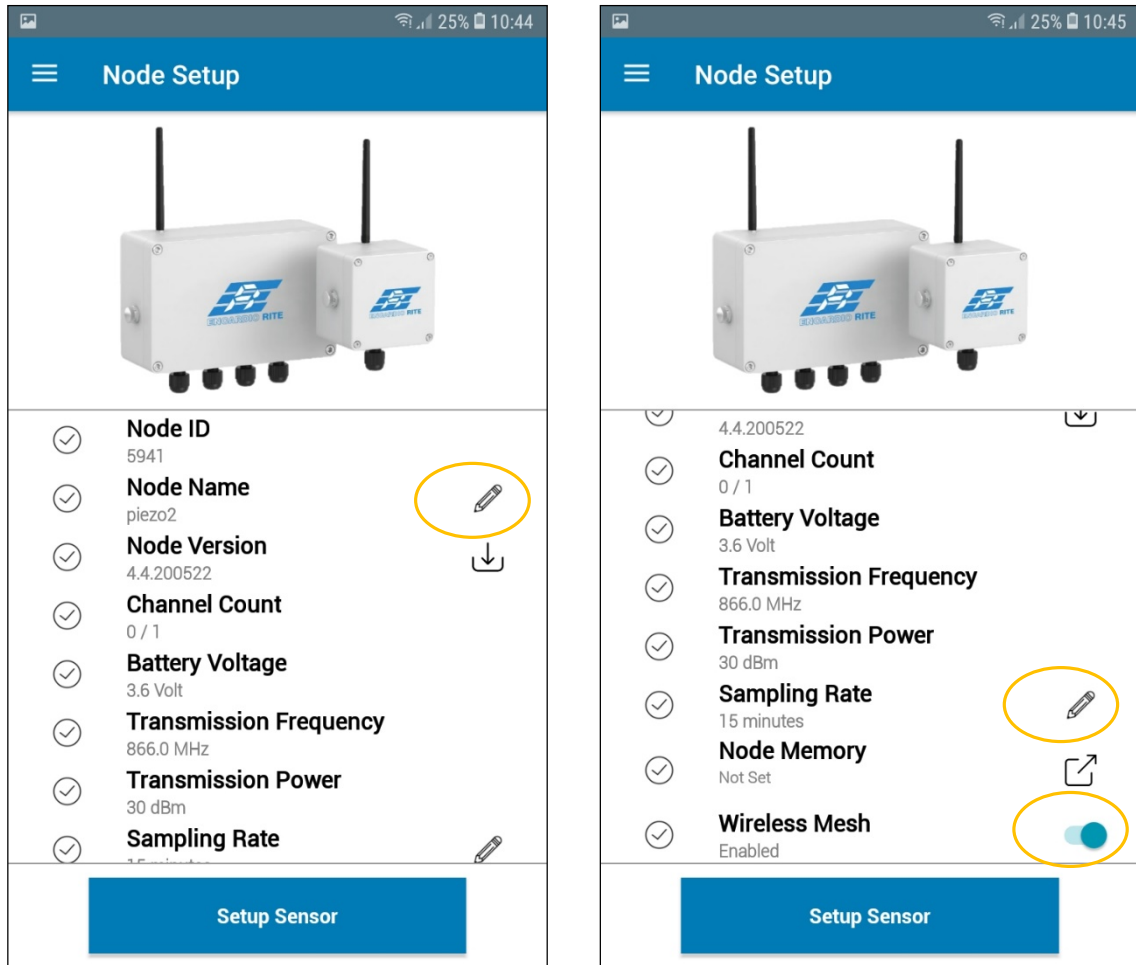

Figure 5-6
8. Once connection is done by clicking on 'Pair Node', the app will show connected node information on "Node Setup" screen as shown in figure 5-6.
NOTE: Optional Step: If "Relay" function is to be deployed, click on "Wireless Mesh" toggle button to enable i.e. in case the Node needs to be used as a relay node (as shown in right side screenshot in figure 5-6).
- 10. Once done, click on 'Setup Sensor' button to configure the sensor settings (as shown in Node Setup screen in figure 5-6).